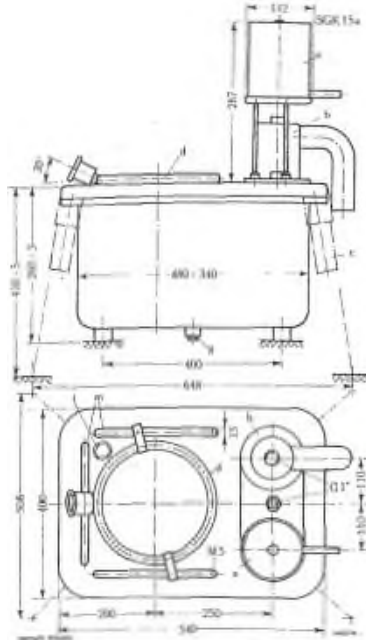

Fig.6
- 2 - Boiler type SG 15a (Fig. 3) or type SGK 15a (Fig. 6)
Instead of the classical boiler (SG 15a) a simplified system, especially designed for industrial equipment, can be used, called "Boiler-condenser" (Type SGK 15a). (Fig. 6)